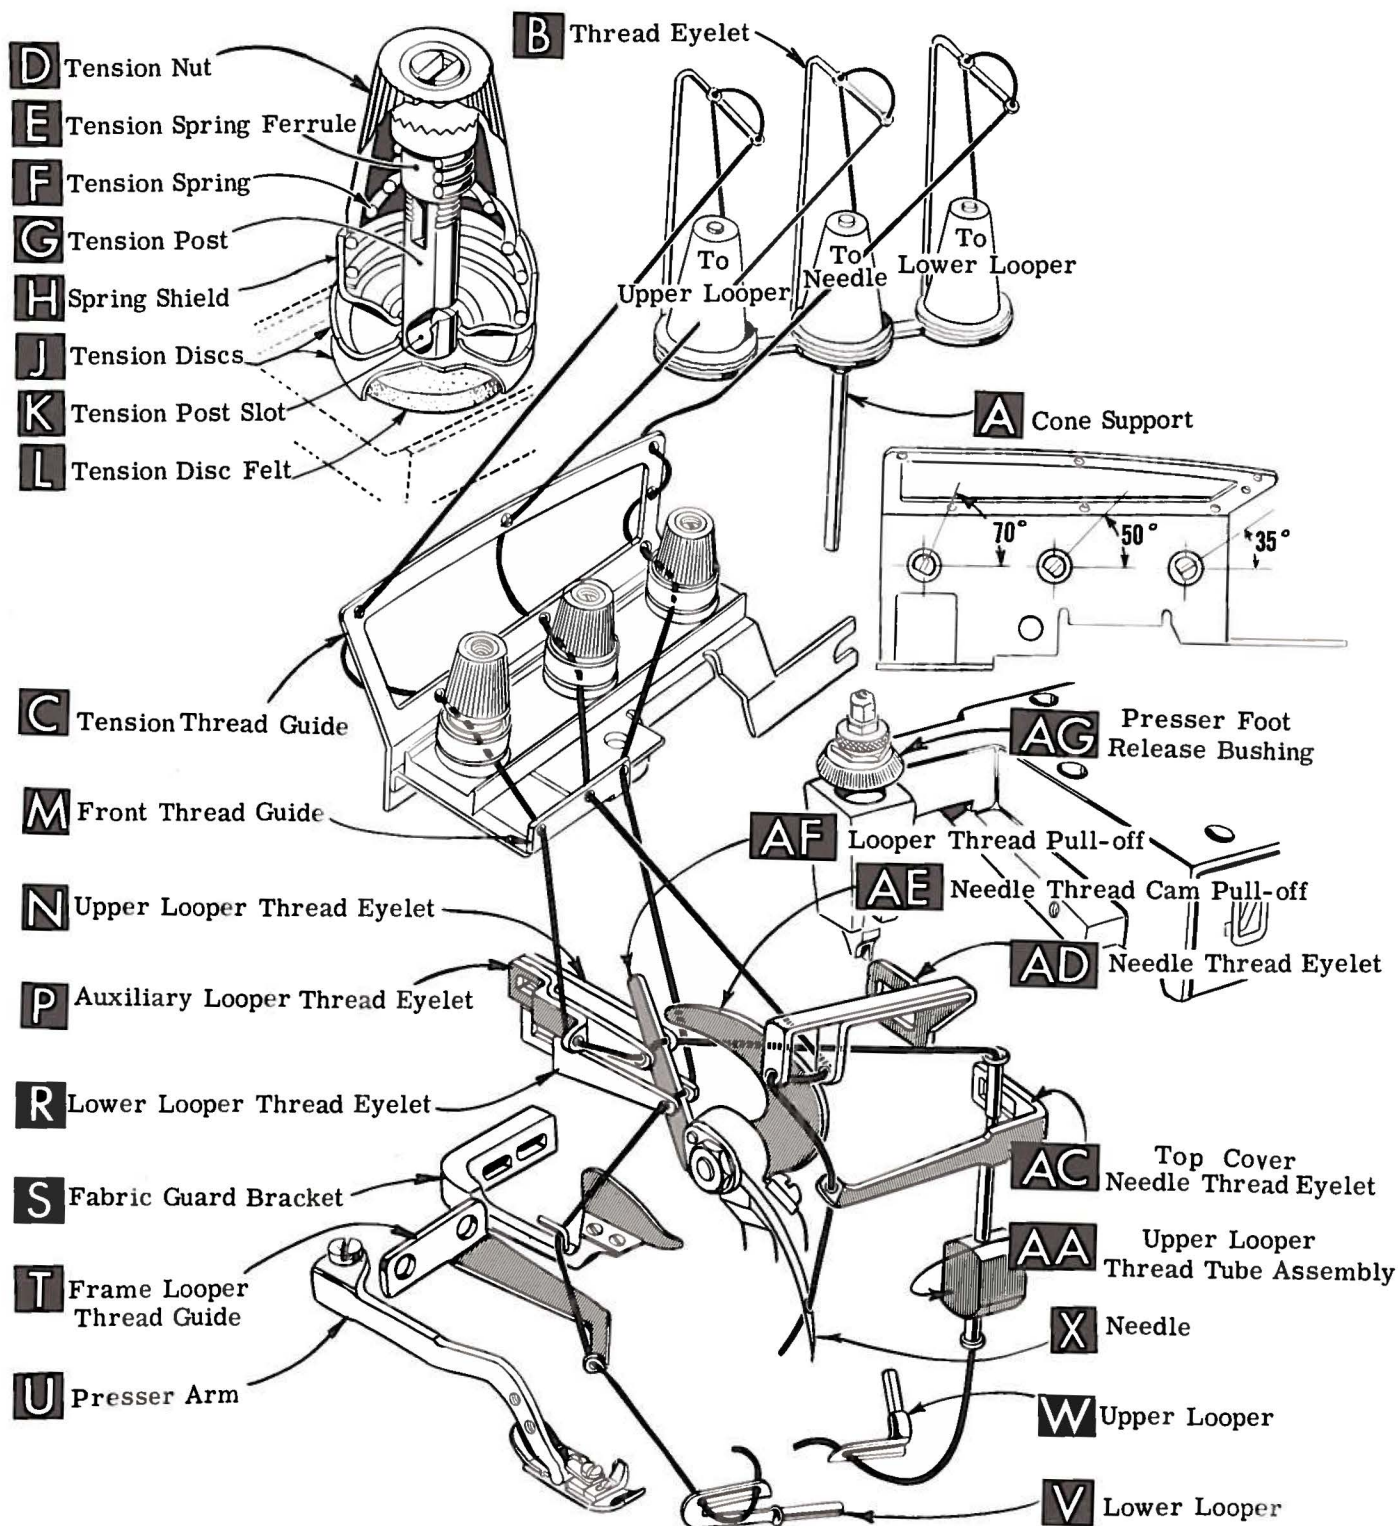

Fig. 1
Release pressure on presser foot by turning presser foot release bushing (AG, Fig. 1) and swing presser arm (U) out of position. Turn handwheel in operating direction until needle is at its lowest point of travel. Using hexagonal socket wrench No. 21388 AU, furnished with machine, loosen needle clamp nut about 1/4 turn. Again turn handwheel until needle is at high position; withdraw needle.
After thread comes from cones on cone support (A, Fig. 1), it is brought up through back hole of thread eyelet (B), then down through the front hole of thread eyelet. Next it is threaded through the upper holes of tension thread guide (C) from front to back and then through the lower holes from back to front. It should be noted that the lower looper thread is threaded through the tension thread guide (C), first through the upper hole back to front, second through the middle hole front to back and third through the lower hole back to front. All threads then continue between the tension discs (J), through tension post slot (K) in tension post (G) and on through front thread guide (M).
Only parts involved in threading are shown in threading diagram (Fig. 1). Parts are placed in their relative positions for clarity.
Double end of thread and lead it through both eyes of lower looper thread eyelet (R, Fig. 1) from right to left. Note: thread must pass in front of looper thread pull-off (AF). Lead thread behind fabric guard (S) and through eyelet hole of frame looper thread guide (T). Turn handwheel in operating direction until heel of lower looper (V) is all the way to the left; then thread through both eyes from left to right. Left eye of lower looper can be threaded easily if tweezers are in left hand.
Turn handwheel in operating direction until needle (X, Fig. 1) is at its highest position. Insert needle thread from right to left, through both eyes of needle thread eyelet (AD), under neck of top cover casting; then down through hole in top cover needle thread eyelet (AC). Thread needle from front.
The amount of tension on needle and looper threads is regulated by three knurled tension nuts (D, Fig. 1). Tension on threads should be only enough to secure proper stitch formation.
Be sure machine is threaded according to threading diagram (Fig. 1). With thread tensions light, set looper thread eyelets (N and R) about horizontal and in the middle of their front to back locations. Operate machine slowly, without presser foot in place, to make sure that chain forms and moves off the tongue freely. Swing presser foot into position, insert material, and sew slowly.
While sewing on material, check needle thread control as follows: Usually all needle thread is drawn on needle down stroke. At top of needle stroke, thread should be just tight enough to feed chain off stitch tongue. Stitch tends to pull down slightly if excessive thread is pulled on the up stroke. With needle at bottom of stroke, position needle thread eyelet (AD, Fig. 1) so that needle thread cam pull-off (AE) just contacts needle thread.
With material under presser foot, set lower looper thread eyelet (R, Fig. 1) back far enough so thread is a little slack when looper thread pull-off (AF) reaches its most rearward position. Looper thread pull-off (AF) is set about 1/8 inch distance behind needle thread cam pull-off (AE). Frame looper thread guide (T) should be set with its eyelet approximately 1/8 inch to right of lower looper (V) heel eyelet at the time lower looper is at extreme left end of its travel.
Before proceeding to adjust upper looper thread eyelet (N, Fig. 1) balance all three tensions to give a normal appearing stitch. Moderate change in these tensions will not markedly effect the purl.